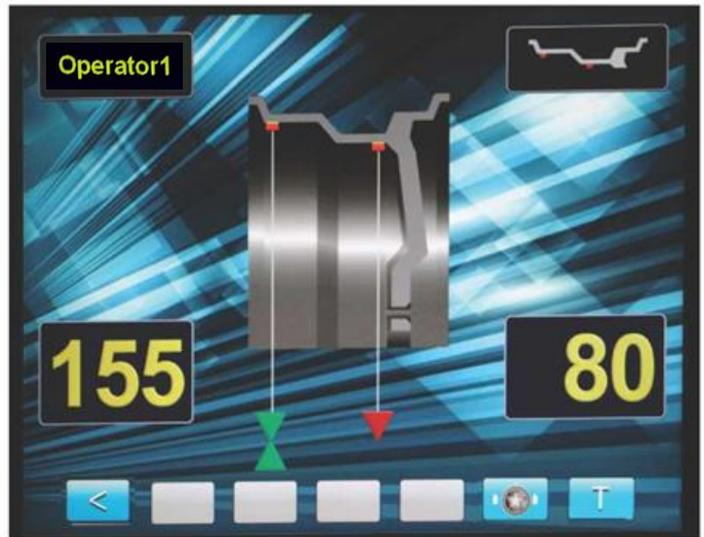

fig. 13.2
13.3. Extend the gauge watching the movement of the lower red triangle. When the gauge extends the distance equal to the distance set by the weight position in the mode «AUTOPROGRAMM» (refer to clauses 11.2 and 11.3) the lower triangle will align itself with the triangle marking the position of the weight. Both triangles will become green (fig.13.2 and 13.3) and the audio signal will sound.